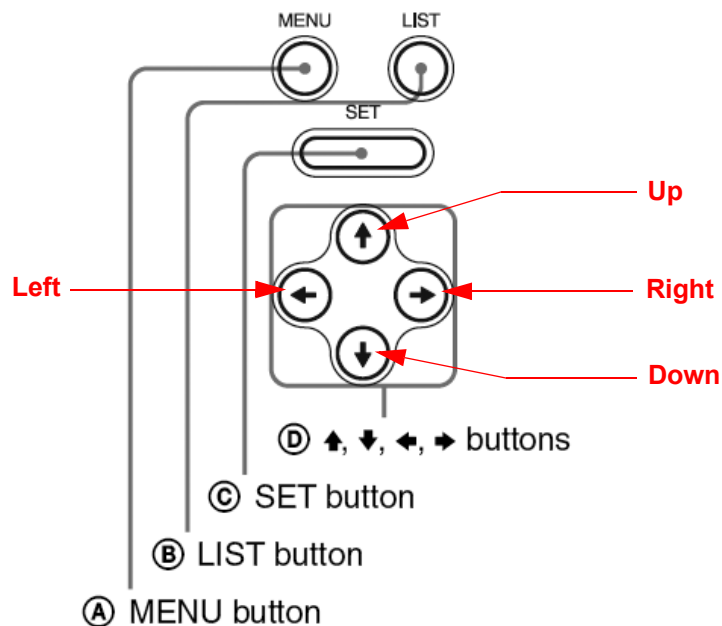

Figure 3-26 Keys on the front of the recorder
- 2.) Press the MENU button (A) located on the front of the DVD recorder see Figure 3-26 below.
2.) Press the **MENU** button (**A**) located on the front of the DVR, see: Figure 3-26 on page 3-34.
- 2.) Press the **MENU** button (A) located on the front of the DVR, see: Figure 3-26 on page 3-34.